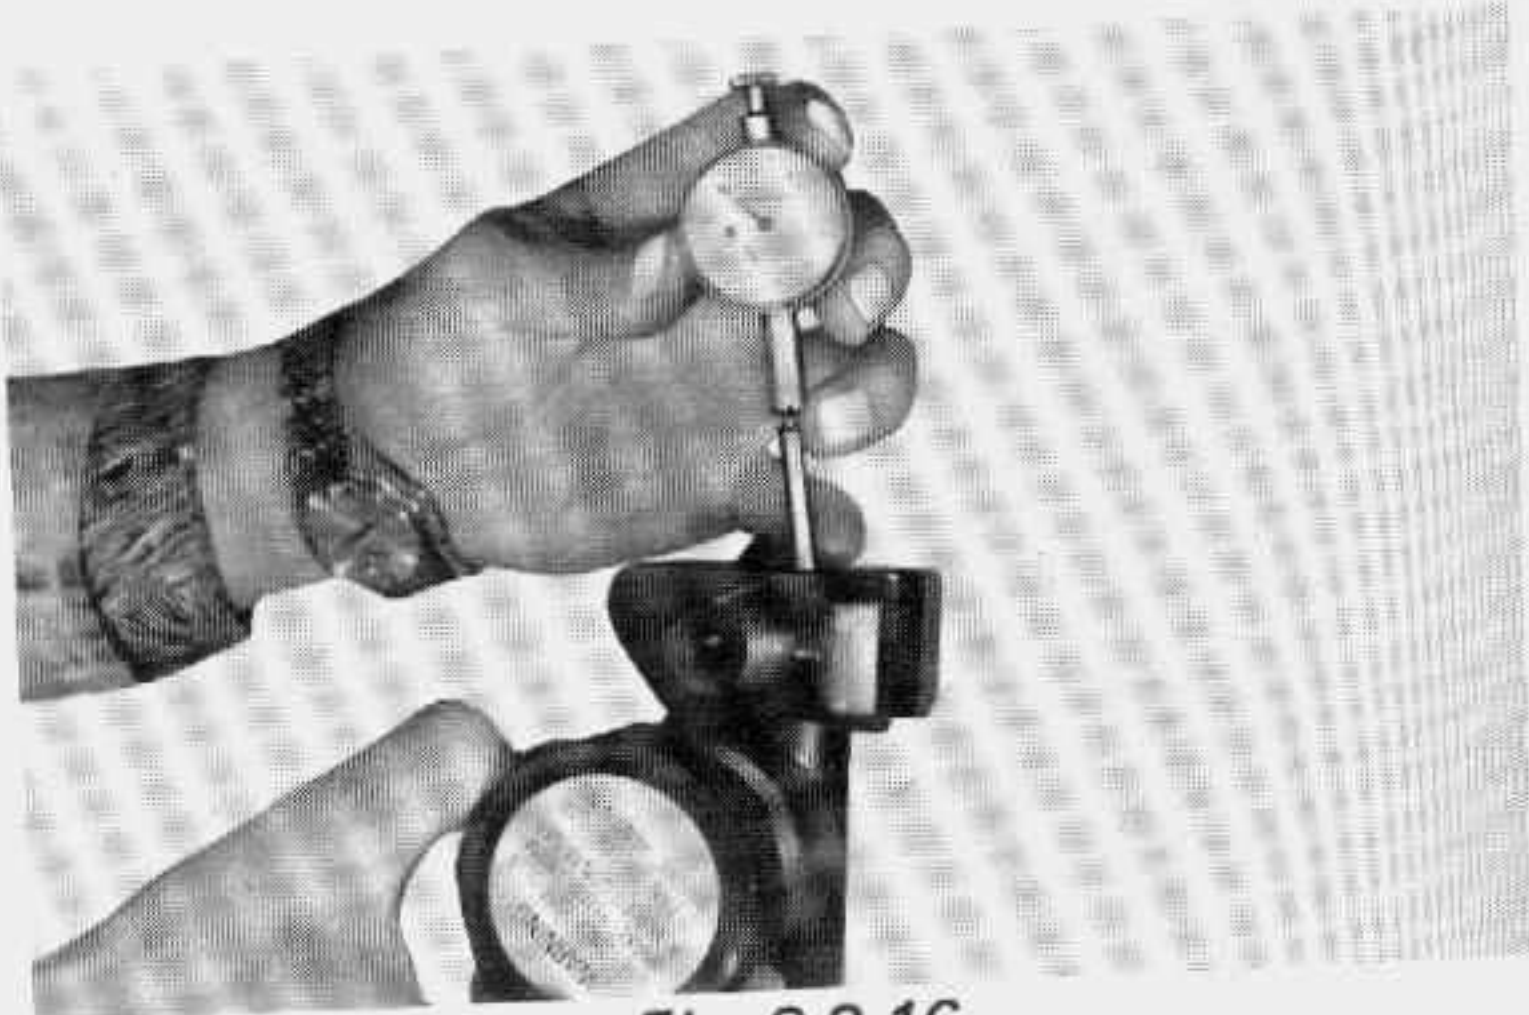

Fig. 8-2-16.
a) Master cylinder: Measure inner diameter of the master cylinder with an inside dial indicator as shown in Fig. 8-2-16.